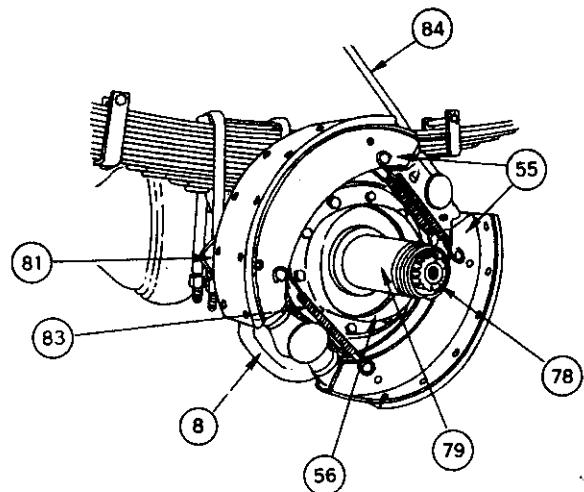

FIG 14 - RIGHT HAND FRONT WHEEL (HUB REMOVED)
n. Fit the brake shoes, ensuring that the four return springs are correctly placed with the overhang of the coils towards the brake shoe webs (fig 14). The compression struts must be correctly located between the twin shoe webs in the socket of both equalizing arms. For adjustment of these struts see VEH G 553 para 3.g.
p. Assemble the driving flange on the outer face of the hub with a gasket underneath. The hub should be turned until the line visible on the end of the drive shaft outer is horizontal (line shown in figs 14 and 13). Assemble the "O" ring oil seal and retainer in position with the centre cap screw finger-tight, using a new cork seal.